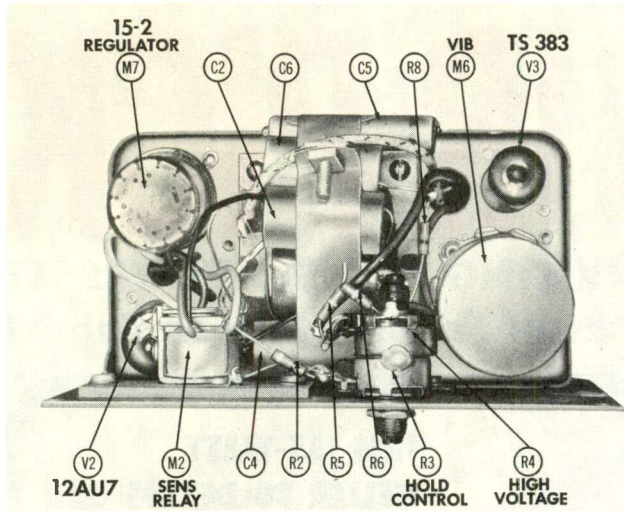
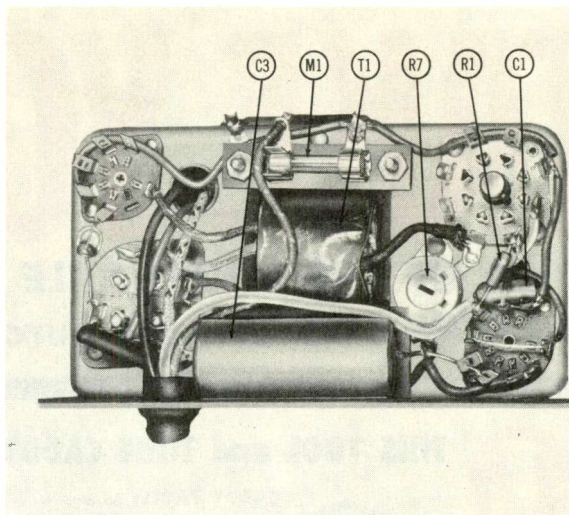

Figure 3. Top View of Amplifier Unit Chassis.
Figure 4. Underneath View of Amplifier Unit Chassis.
**Amplifier Unit.** This unit contains a control tube stage, a sensitive plate-circuit relay, and a vibrator type power supply that furnishes operating voltages for the phototube, the control tube, and the power relay. Refer to Figure 3 for top view of amplifier unit chassis. Figure 4 shows the underneath view of the chassis. The amplifier unit is installed under the hood in the engine compartment.